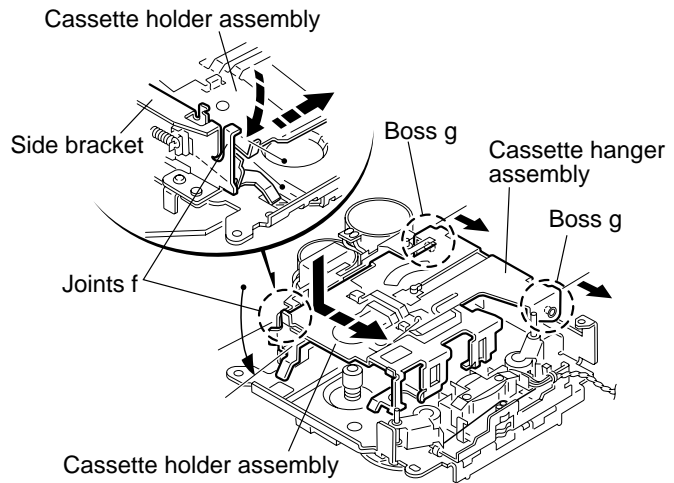

Fig.6
■ **Removing the cassette hanger assembly / cassette holder (See Fig.6 to 9)**